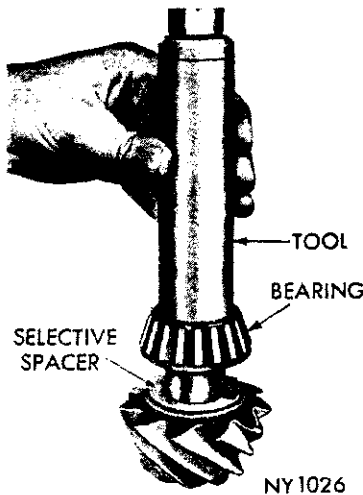

Fig. 19—Installing Pinion Shim and Rear Bearing Cone
(1) Place selected shim and rear pinion bearing cone on pinion stem. Using installing sleeve Tool C-3717, press bearing on pinion stem (Fig. 19).
(2) Hold drive pinion and bearing assembly in axle housing and install original preload shim (chamfered side toward shoulder), followed by front pinion bear-